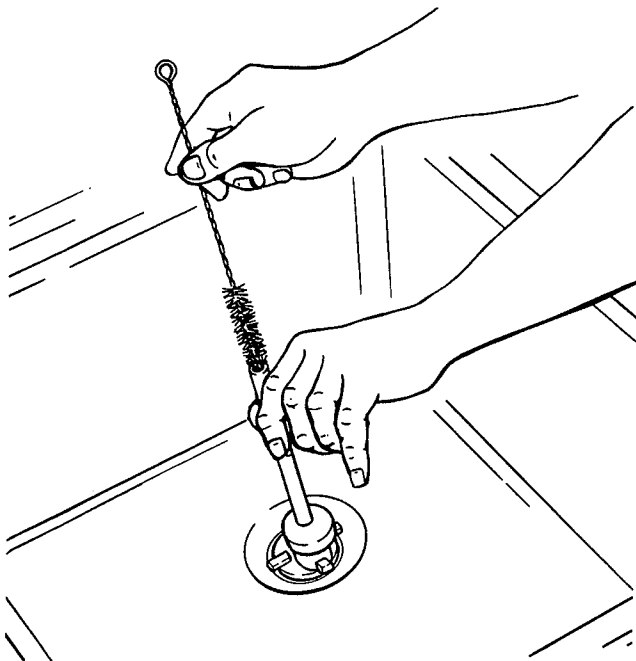

Figure 29. Sanitizing Mix Inlet Regulator
2. Run a sanitized brush down the mix inlet regulator tubes (Fig. 29).